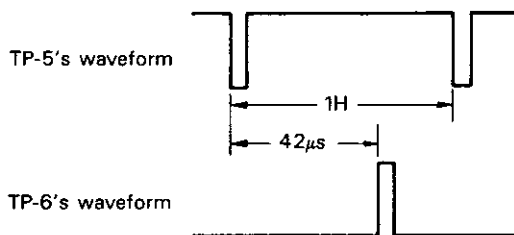

Fig. 81
- ④ Connect the probe to TP5 and TP6.
- ⑤ Adjust VR407 so that the phases of the measuring waveforms become as shown in Fig. 81 (H-DELAY).